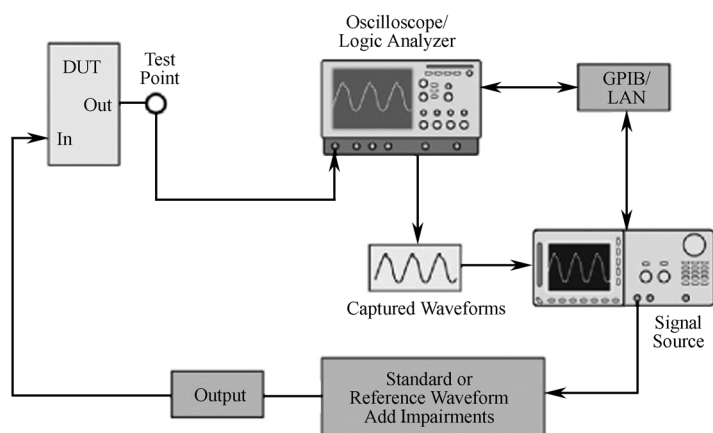

Figure 28.1 Signal sources can use standard, user-created or captured waveforms, adding impairments where necessary for special test applications
- **Replication:** Capturing an existing signal on an oscilloscope and sending it to the signal source for reproduction (Figure 28.1)
- **Substitution:** Creating and/or modifying a defined signal to substitute for a signal from unavailable circuitry (Figure 28.1)